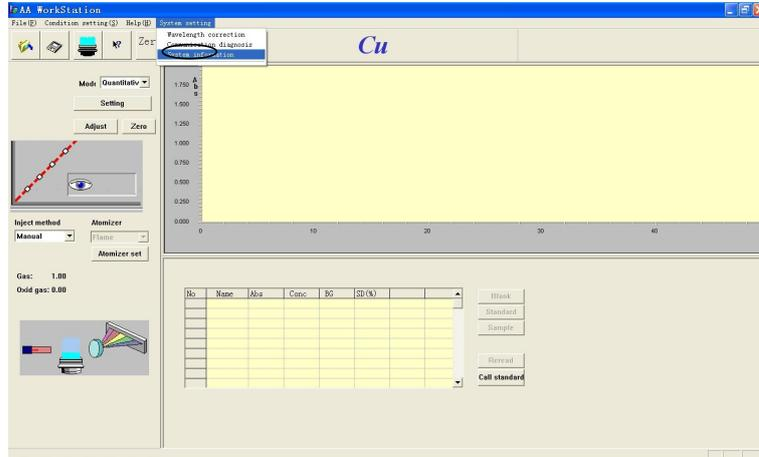

Figure 4-7
1. Select "System settings > System information" from the menu bar, as shown in Figure 4-7, and a dialog will appear as shown in Figure 4-8.